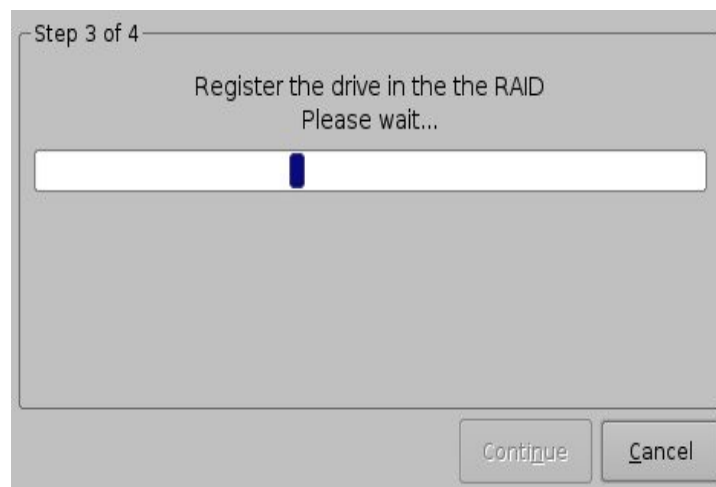

Figure 38: Drive Registration – End of Step 3/4
- When the new drive insertion process has been completed, the drive will automatically become registered in the RAID and the user will be prompted to the Drive Registration window (Figure 38).